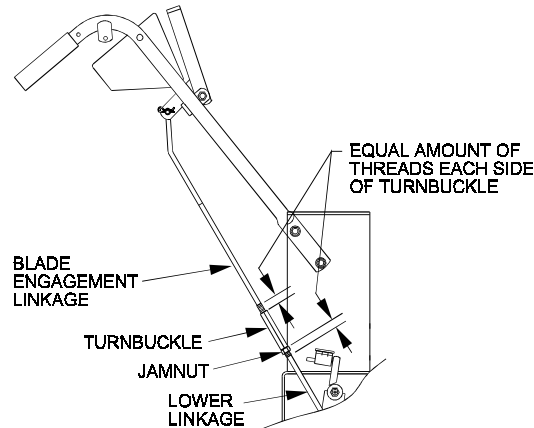

FIG 5
- 3.9 Connect the blade engagement linkages. Loosen jamnut and remove turnbuckle from lower linkage. Screw turnbuckle onto both upper and lower linkages simultaneously. (See figure 5) Note that the threads on upper linkage are left hand. See 5.2.2 for linkage adjustment.